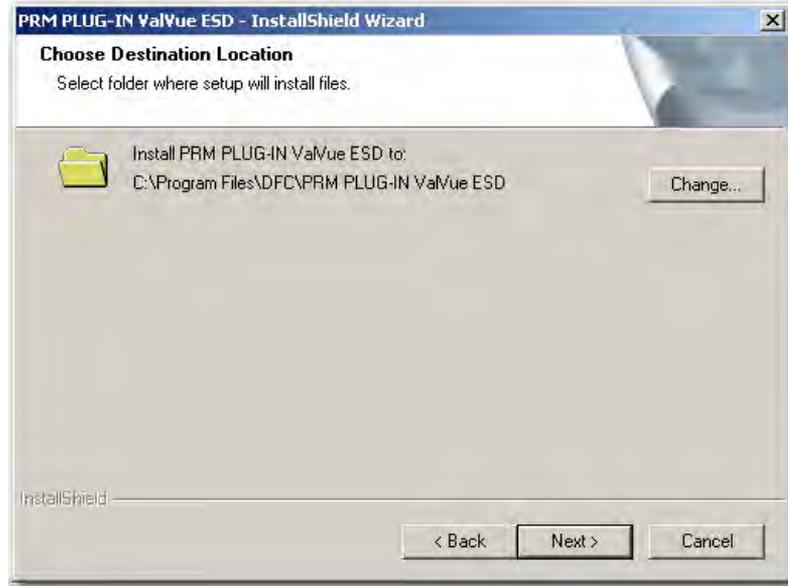

Figure 15 PRM Plug-In Destination Folder
4. Click the accept radio button, click **Next** and the *Choose Destination Location* screen appears (Figure 15).